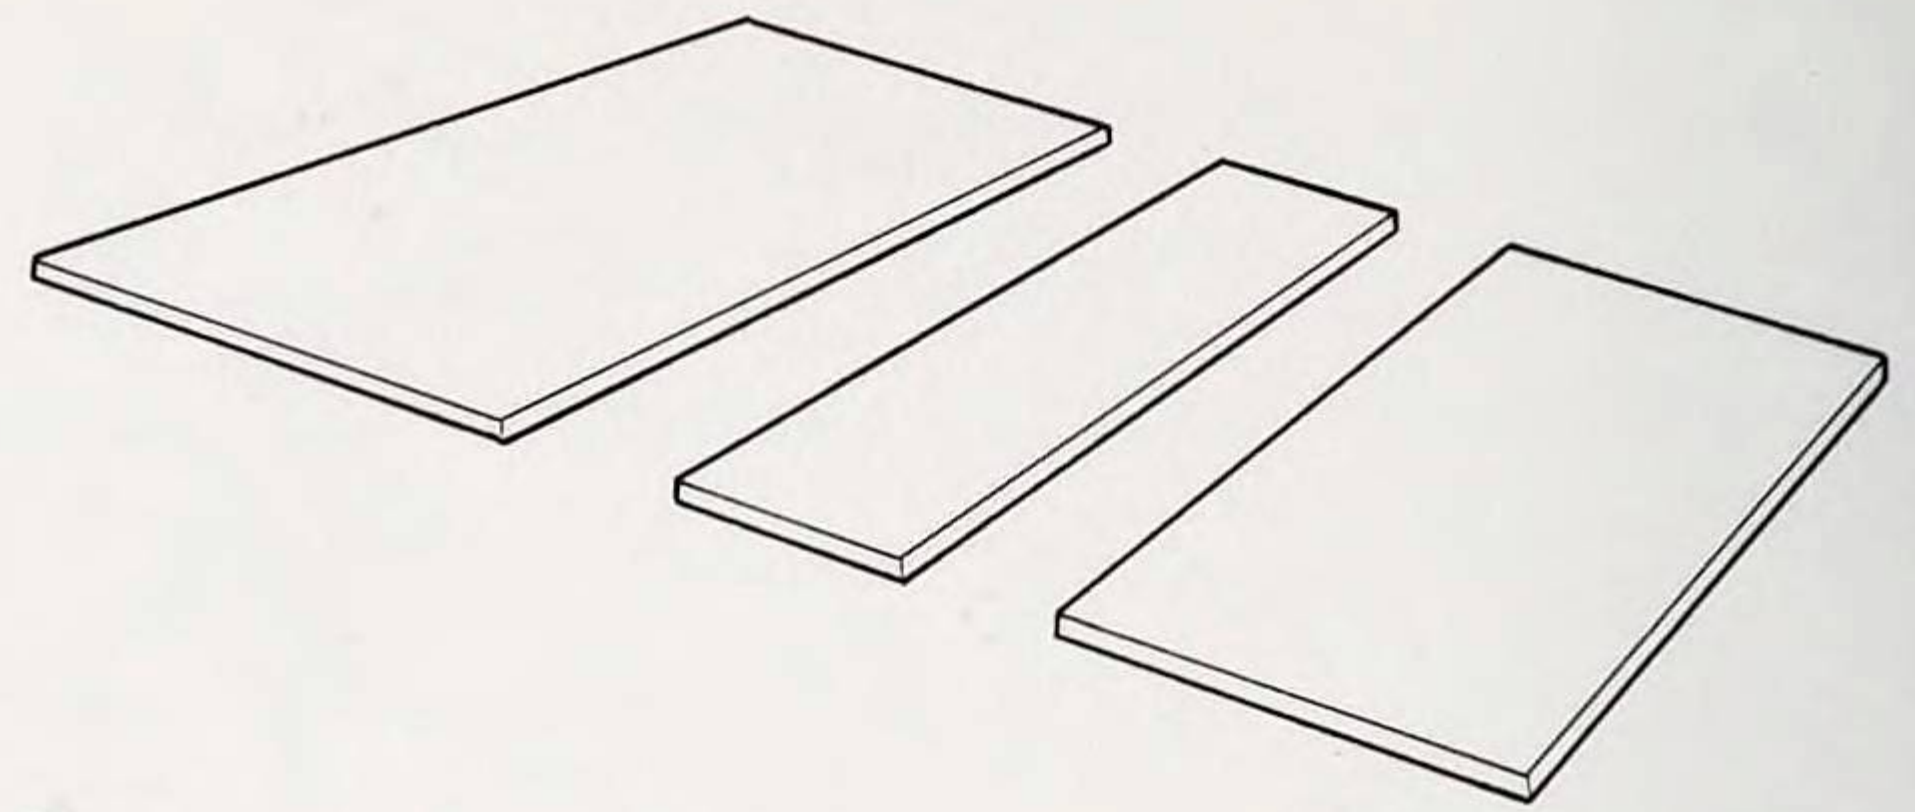

Fig. 5 The narrow centre top and the two folding leaves
7. Make the top and the two drop leaves. Mark the narrow centre top and the wider leaves (Fig. 5) and shape the joining edges. Use either a ruled joint, as shown in the working drawing, or a mitre joint. If solid timber is used, the ruled joint is simple to make and if you have a router there are cutters available which will assist the process. If manufactured board is used, it will need lipping. With pre-veneered board, the lipping will be visible on the face. The making, lipping and veneering of the three tops are not recommended unless you have some experience of this process.